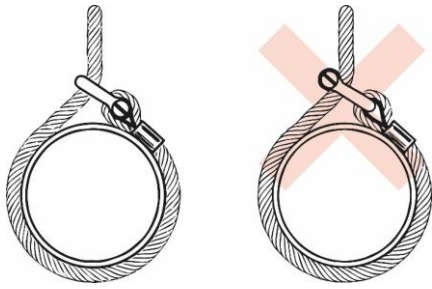

Figure 2
- To avoid loading the shackle with an eccentric load, place spacers on one or both ends of the shackle pin (see figure 2).